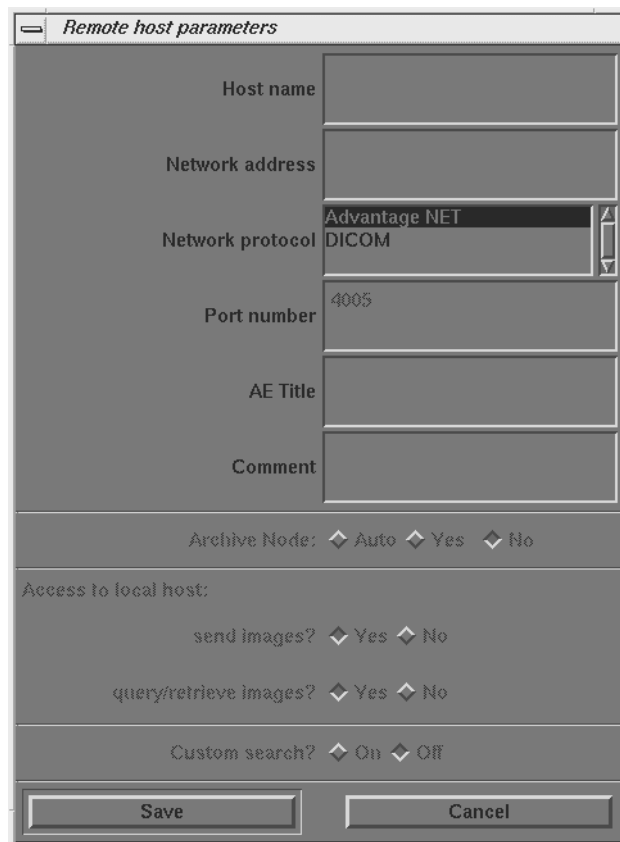

Figure 12-4 Advantage Net Network Protocol Parameter Settings
- 1.) Select REMOTE HOSTS from the pull down menu. The system displays the Remote Host Parameter Screen as shown in Figure 12-4.